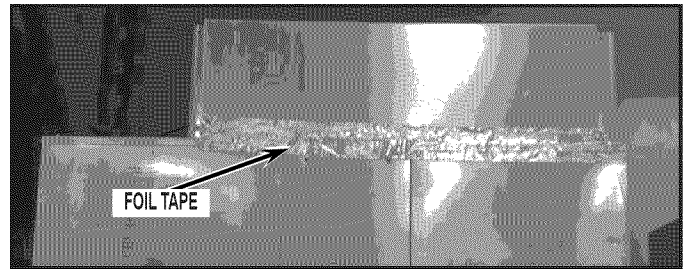

FIGURE 15
- Place the foil tape supplied in the kit onto the location on the back of the refrigerator as shown in *Figure 15*. It is very important this tape is in place to facilitate proper air flow.